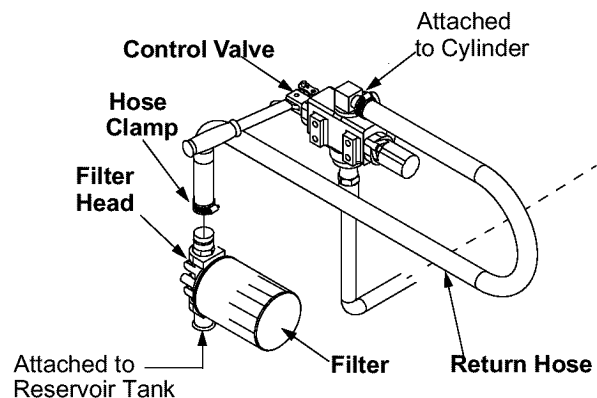

Figure 10
- The return hose is attached to the top of the control valve. Loosen the hose clamp on the free end of the hose. Cut the securing strap. Remove protective insert from end of the hose. See Figure 10.